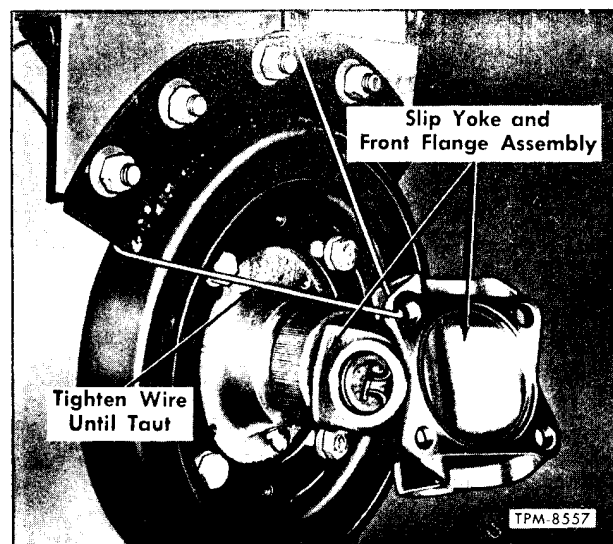

Figure 79—Compressor Drive Propeller Shaft Disconnected for Inactive Service
3. The compressor drive shaft rear joint assembly should also be removed and the forward slip yoke assembly should be wired securely to bulkhead as shown in figure 79. NOTE: If slip yoke is removed a substitute cap must be placed over end of clutch shaft to prevent entry of dirt.